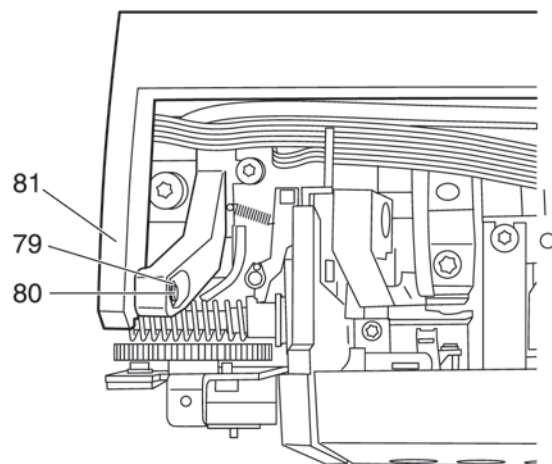

Fig. 40
- Remove retaining washer 79 from bolt 80 (fig. 40).